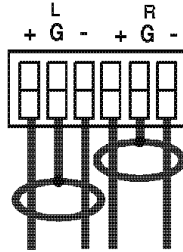

Figure 7: Connecting the Balanced Stereo Audio Input/Output
- A balanced input/output connection (see Figure 7)
Figure 7 illustrates how to wire a balanced input/output connection: